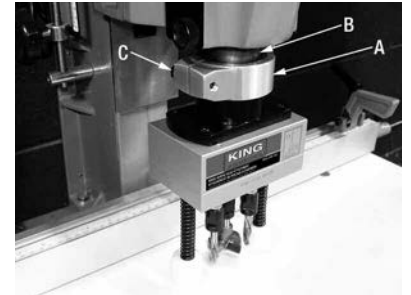

FIGURE 5
- 2) Line up both male and female ends and slide the Hinge Boring Head Attachment collar (A) Fig.5 up onto the machine collar (B).
- 3) Secure the Hinge Boring Head Attachment by tightening the hex. bolt (C) with the supplied open end wrench.